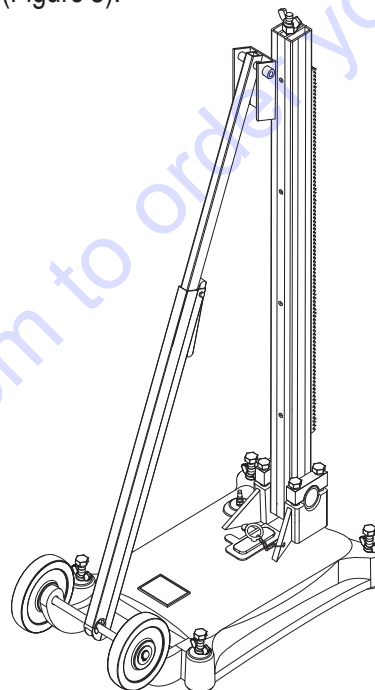

Figure 5. Dril Rig (upright Position)
- Place the drilling rig in an upright position on a firm flat surface (Figure 5).